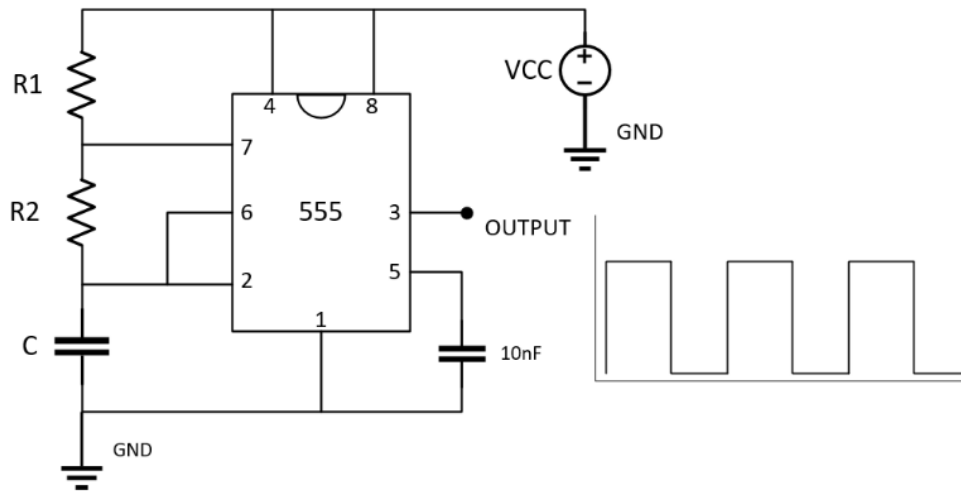

Fig. 2 Astable Multivibrator
The circuit of an Astable multivibrator is shown in **Fig. 2**. The selection of R_1 , R_2 and C is important to form the wave. The capacitor 'C' undergoes charging through series combination of R_1 & R_2 and when the voltage across the capacitor reaches $2/3$ of the supply voltage V_{cc} , pin 6 detects this condition and turns the output OFF. Hence charging time is
1. Build the circuit of Fig. 2 on bread board. Use general purpose IC-555 Timer. Connect a ceramic capacitor of value $0.01 \mu F$ at Pin5 (control pin). Apply the DC voltage **6V** from the DC voltage source to Pin 8 (V_{cc}) & Pin4 (reset).